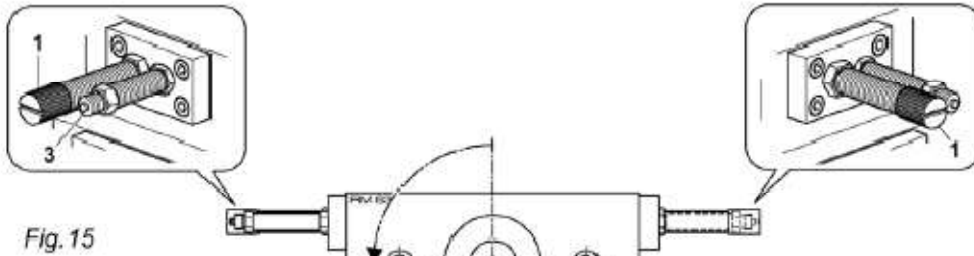

Fig. 15
1. Unscrew the shock-absorbers (1).
2. Apply compressed air to (P1). The pinion shaft (2) turns in anti-clockwise direction as far as the limit determined by the stop screw (3) (Fig.15).